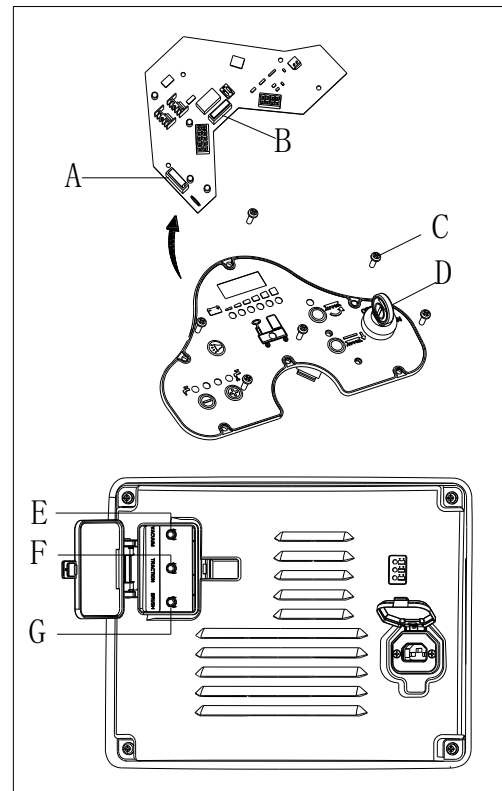

Figure 24
1. Turn the key switch (D, Figure 24) to "OFF".
3. Unscrew the screws (C) on the control panel and then turn over the PCBA to find the fuse (A and B).